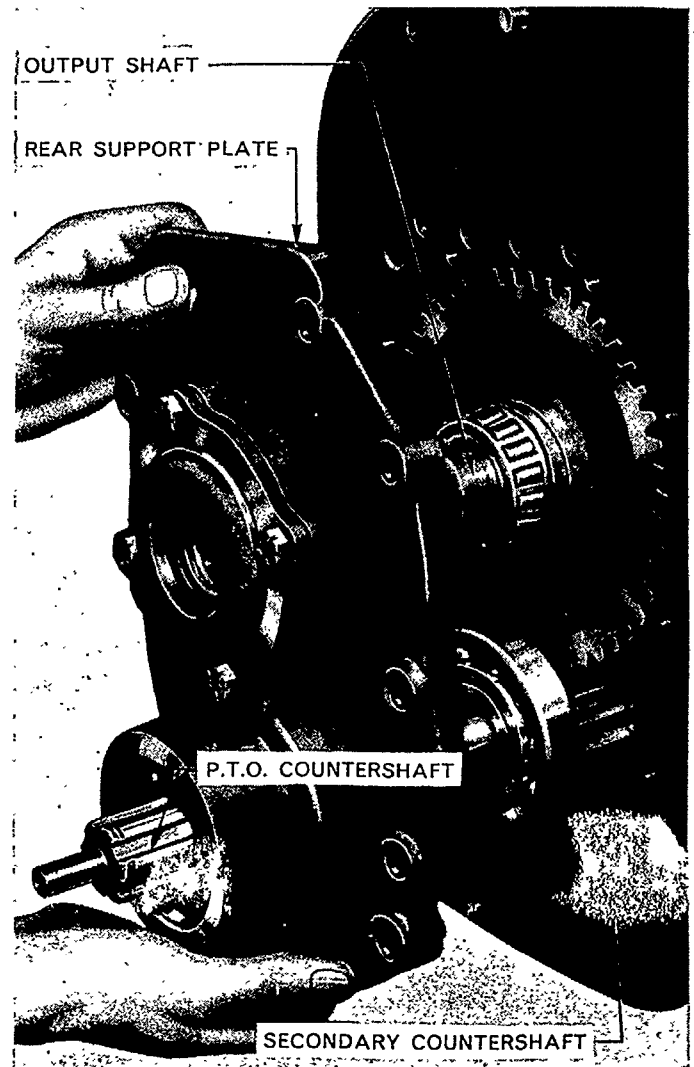

Figure 27
2. Remove the locking wire and the ten bolts securing the rear support plate. Lever the support plate assembly off the transmission rear face, and remove the plate, and the P.T.O. countershaft (if applicable), as an assembly, Figure 27.
Drive the P.T.O. countershaft rearwards (from the front compartment) with a soft faced mallet, and withdraw the rear support plate and P.T.O. countershaft as an assembly, Figure 27.